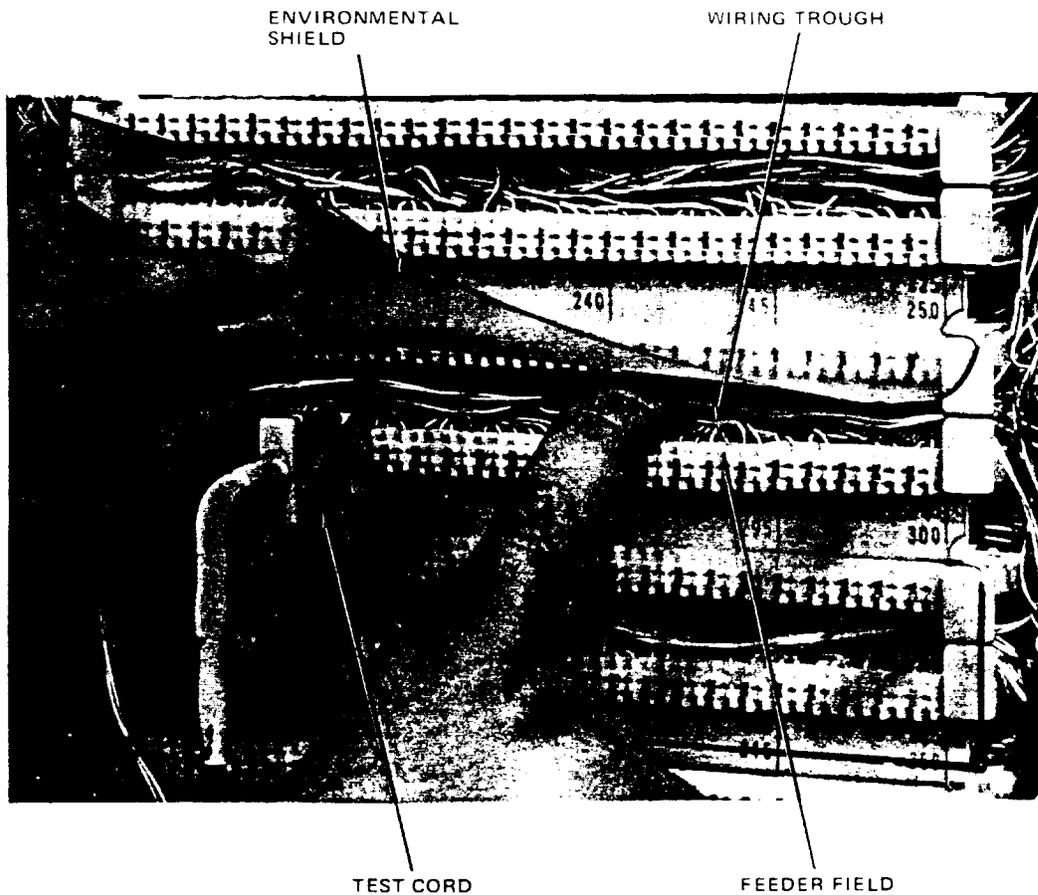

Figure 11. Routing Cross-Connecting Wire to Assigned Feeder Pair
- (1) Push the terminated wires to the back of the wiring channel between the connecting blocks. Position the wires along the channel through the wiring slots into the wiring trough.
- (2) Form a finger loop to provide 2 inches (5.08 cm) of slack. ***These finger loops allow a sufficient amount of slack for movement of the cross-connecting wire for tracing.***
3.05 Route the cross-connecting wire to the assigned feeder pair and terminate as follows (Figure 11):